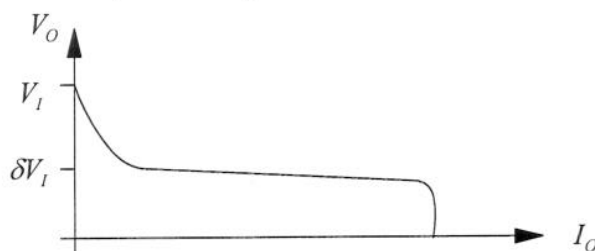

Figure Q1
- (d) Figure Q1 shows the output voltage of a buck switch-mode power supply as a function of output current when operated in open-loop with a set duty-cycle. Explain its shape. [4]